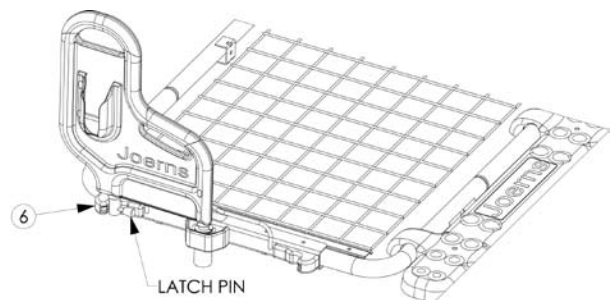

Figure 5
3. Lock the assist handle by engaging the latch pin into the latch (item 6) (Figure 5).